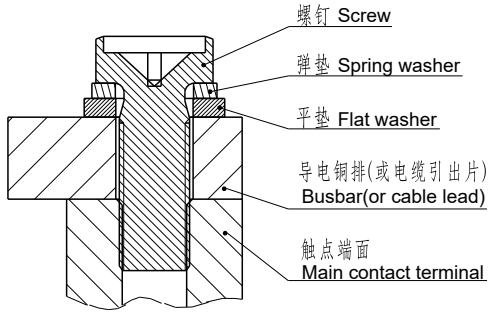

图1(Fig1)
- 当产品使用1个及多个导电铜排连接时，请确保导电铜排与触点端面紧密贴合（多个铜排需确保大电流的导电铜排最贴近触点端面，小电流的导电铜排其次），然后是平垫圈、弹簧垫圈、螺钉。不正确的连接顺序可能造成严重过热，参考下图1：
When the product is connected with one or more conductive copper bars, please ensure that the conductive copper bars closely fit the contact terminal surface (The conductive copper bars with high current must be closest to the contact terminal surface if there are multiple copper bars and then conductive busbars with low current), followed by flat washers, spring washers and screws. Incorrect connection sequence perhaps give rise to severe overheating. Refer to Figure 1 as follows: